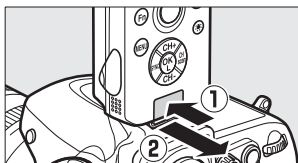

Figure 1
To remove the WR-1, angle it as shown in Figure 1 or 2, and then press the release (①) and slide the unit off the accessory shoe (②). The unit can only be removed when angled as shown.